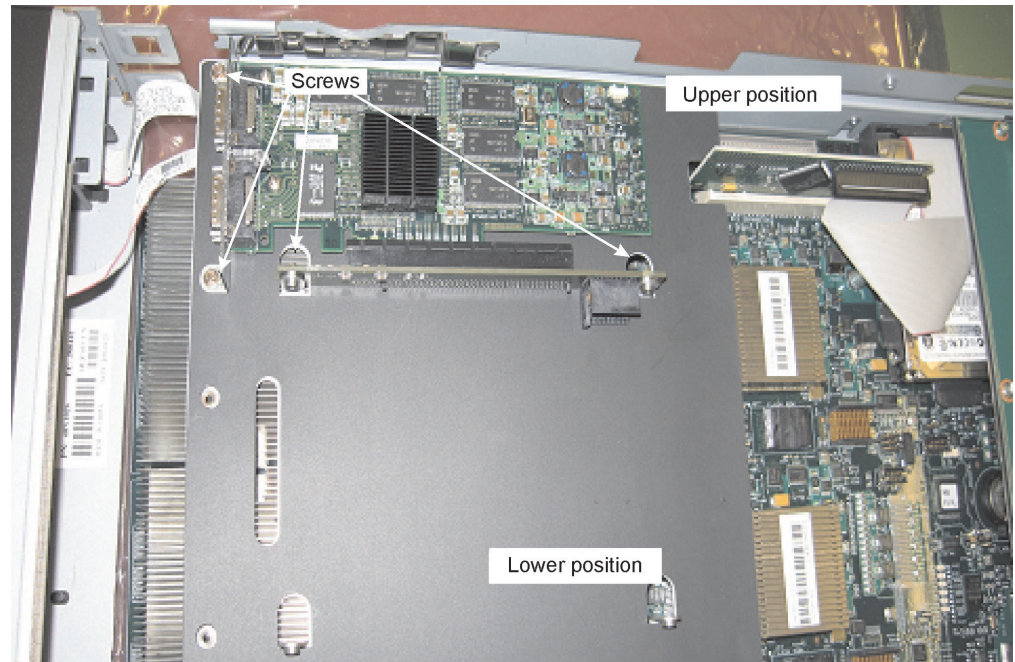

Figure 16. Mounting point and position description
10. Secure the assembly with the four screws that were delivered with your InfiniBand card, see Figure 16 on page 33.